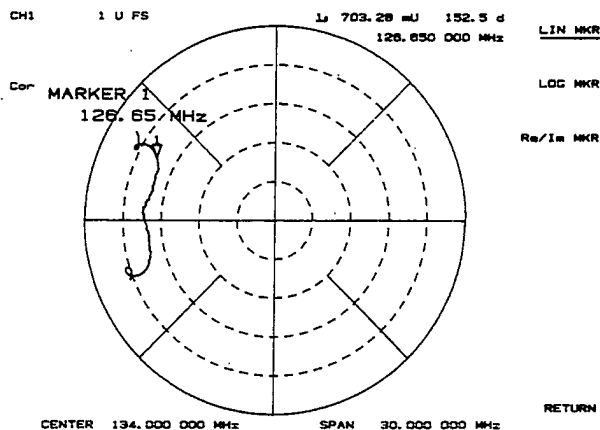

Figure 7-13. Polar Format
**[POLAR]** (POLA) displays a polar format (Figure 7-13). Each point on the polar format corresponds to a particular value of both magnitude and phase. Quantities are read vectorally: the magnitude at any point is determined by its displacement from the center (which has zero value), and the phase by the angle counterclockwise from the positive x-axis. Magnitude is scaled in a linear fashion, with the value of the outer circle usually set to a ratio value of 1. Since there is no frequency axis, frequency information is read from the markers.